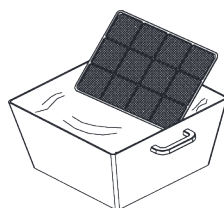

Fig.5
- 2.Use a portable vacuum cleaner or gently shake the filter to remove dust. If the filter is too dirty, please clean the primary filter with warm water and moderate force(fig.5)